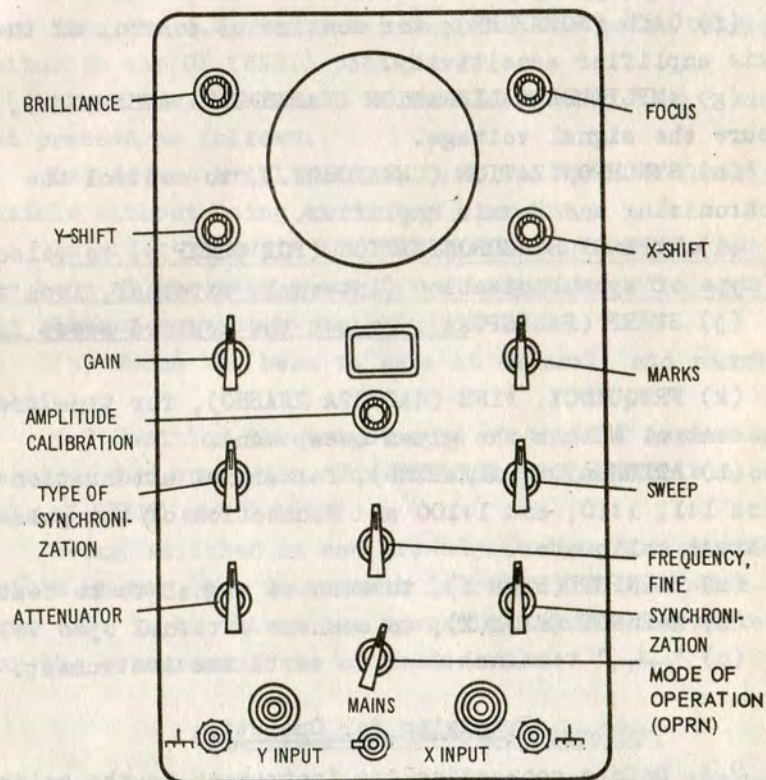

FIG. 2. CONTROLS LAYOUT
7.2. The vertical face panel (Fig. 2) accommodates all the controls provided with explanatory inscriptions.